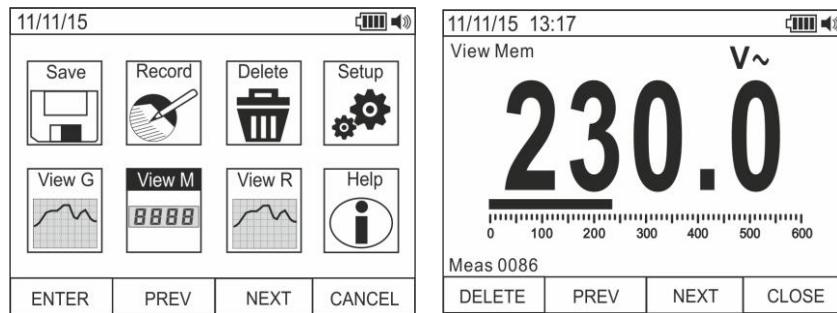

Fig. 19: Recalling measured data (snapshots) on the display
31. Use the **F2** or **F3** key to select symbol “View M” and press the **F1** key (see Fig. 19 – left side).
32. Use the **F2 (PREV)** or **F3 (NEXT)** key to select and view the desired measure among the ones saved in the instrument’s memory (see Fig. 19 – right side). The measure reference appears at the bottom of the display on the right side.